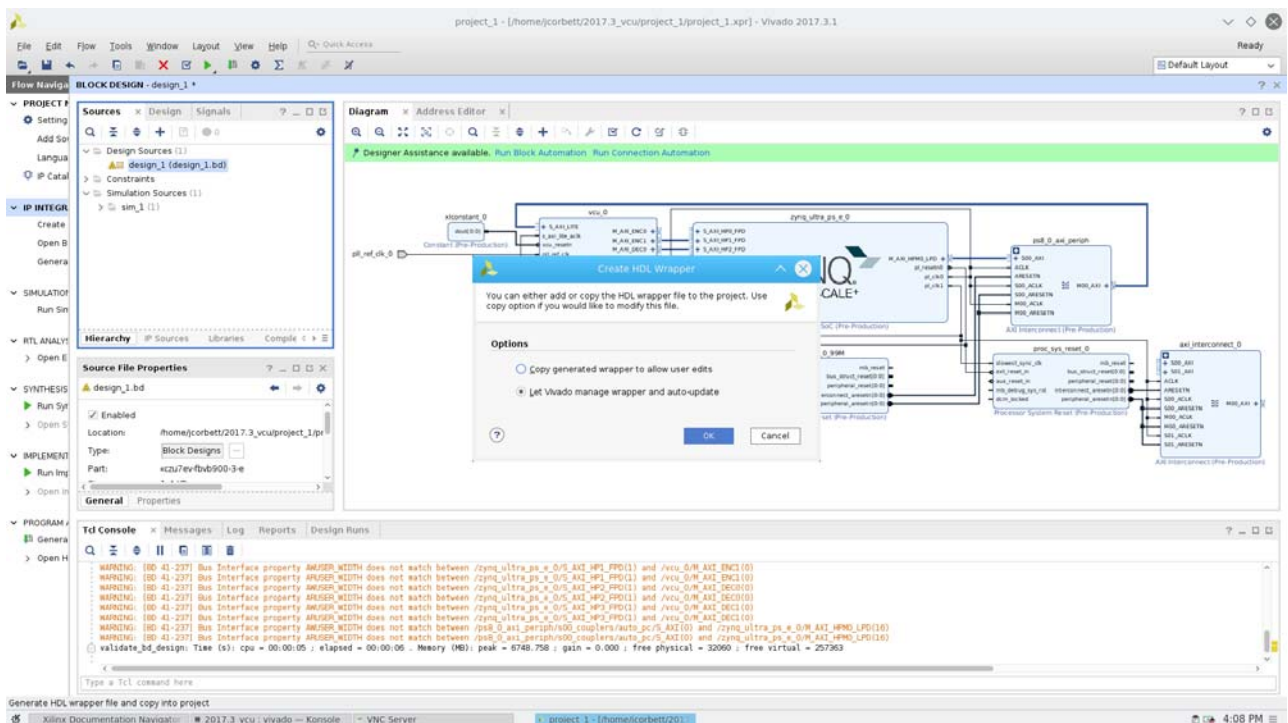

Figure 10-16: Create HDL Wrapper
23. Create a top-level Vivado wrapper by right-clicking on Block Design and selecting **Create HDL Wrapper** option as shown in Figure 10-16.